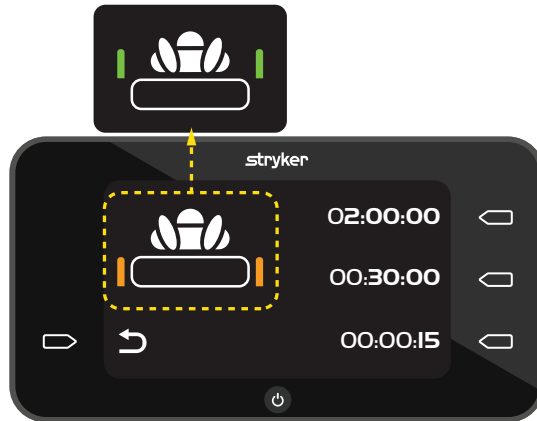

Figure 11 – Check siderail
4. Raise the siderails to the highest height position (Figure 11).